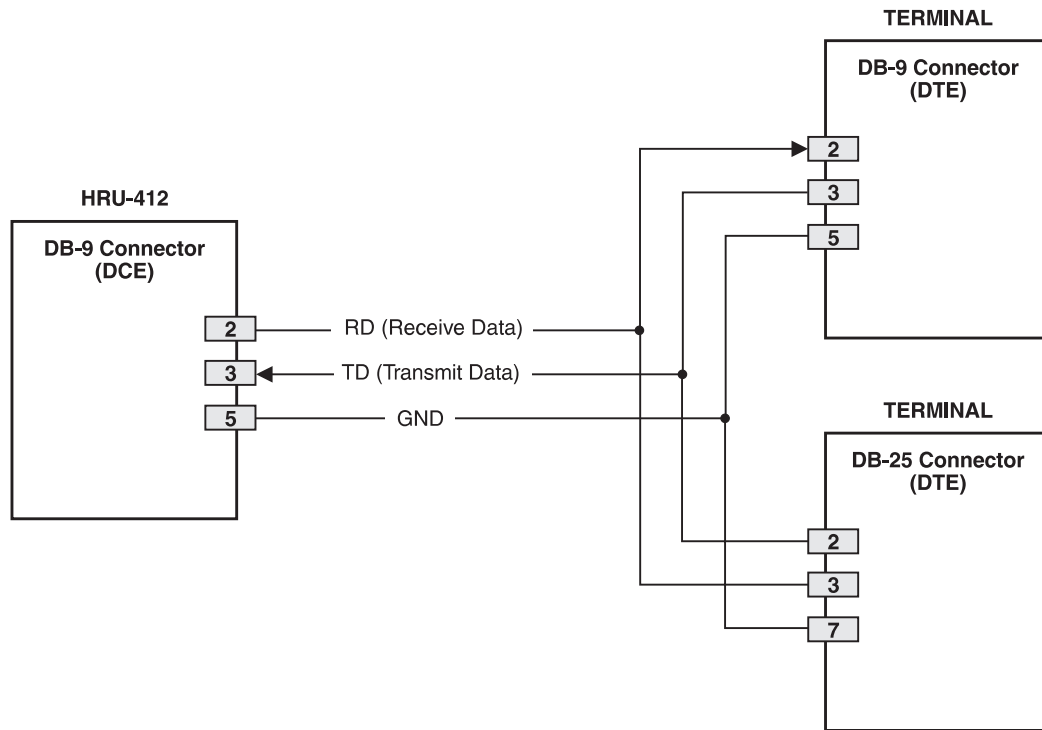

Figure 7. DB-9 RS-232 I/O
- 10.1** The 9-pin RS-232 connector on the front of the HRU-412 allows you to connect your system to a dumb terminal or PC running a terminal emulation program with a standard RS-232 cable. Once connected to a dumb terminal, you can access the view-only Maintenance/Remote Terminal menus (the *Set Clock* option is the only user-configurable option on the HRU-412). Figure 7 shows the HRU-412 DB-9 RS-232 I/O.